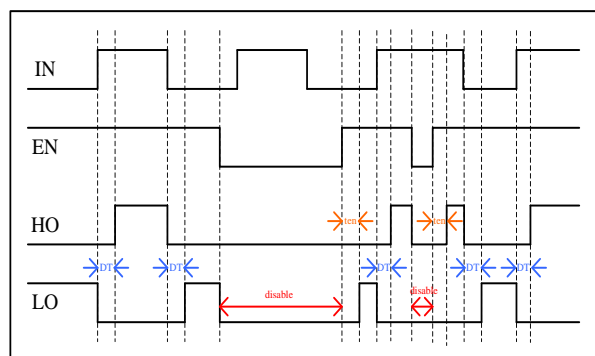

FIG. 4 Logic operation
The PT5620 packaged in MSOP10/DFN10 provides an enable pin (EN) to allow the device to work in a low current dissipation state. The EN pin is compatible with 3.3/5V logic levels. If EN is set to logic LOW, the device is forced into standby mode and all gate driver outputs are locked into a logic LOW state and only 5 μ A (typ.) is dissipated, as shown in FIG. 4. If EN goes from logic LOW to logic HIGH and incorporates a delay of 4.6 μ s (typ.), the device may be released from standby mode and all outputs are enabled. In order to lower the bias current, a sufficiently large resistor (525K Ω) is tied between EN and COM.
High side and low side driver outputs are specifically designed for pulse operation and dedicated to driving power devices such as IGBTs and power MOSFETs. High and low side outputs are state triggered by the rising and falling edges of the IN pin, as shown in FIG. 4. After releasing from an under-voltage condition of the VBS supply, a new turn-on signal (edge) is necessary to activate the respective high side output. In contrast, after releasing from an under-voltage condition of the VCC supply, the low side outputs may directly switch to the state determined by their respective inputs without the additional constraints required by the high side driver.